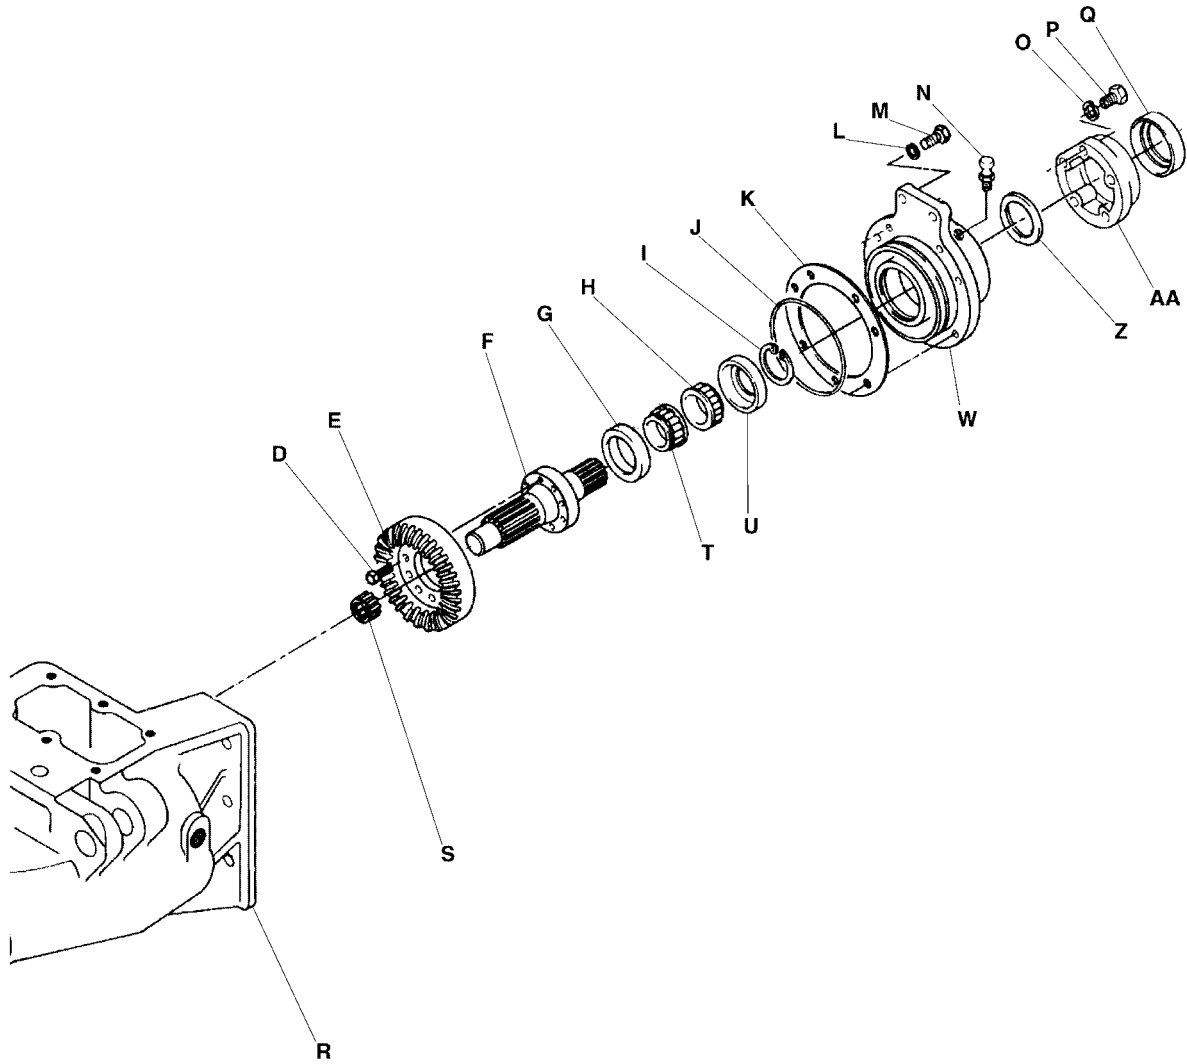

Figure 2. Ring Gear Shaft Assembly
Refer to Figure 2.
1. Press new axle shaft outboard bearing cup (D) (outer race) into housing bore tight. Install bearing cone(C).
2. Install new oil seal (B). Press seal into bore until outer surface is flush with end of housing.
3. Install new axle shaft inboard bearing cup (H). Press bearing cup into housing bore until tight and square against snap ring (G). NOTE - The use of a 73 mm OD piece of tubing or spacer ring as a driver is suggested.
4. Install the ring gear shaft inboard roller bearing (S on Fig. 2).
5. Then, put the axle shaft into the drive unit housing (F) end.